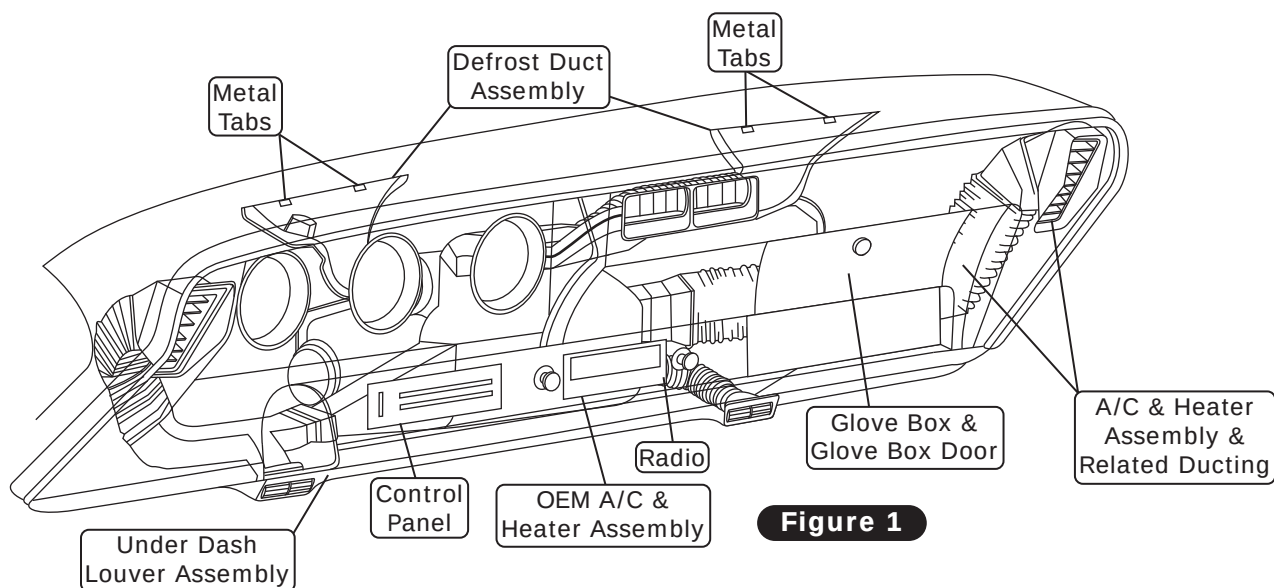

Figure 1
7. Remove the OEM defrost duct assembly by straightening the (4) metal tabs (See Figure 1, below).
8. Remove the OEM A/C & heater assembly (discard) (See Figure 1, below).